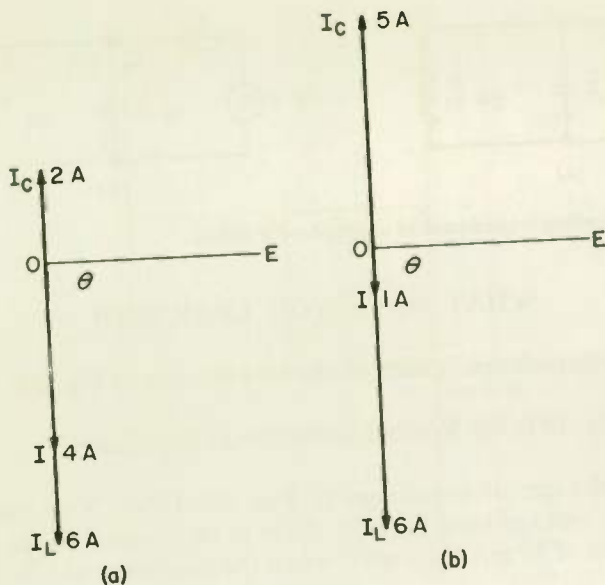

Fig. 24
7. See Fig. 24 for phasor diagrams. Total current is 4 A in (a) and 1 A in (b).